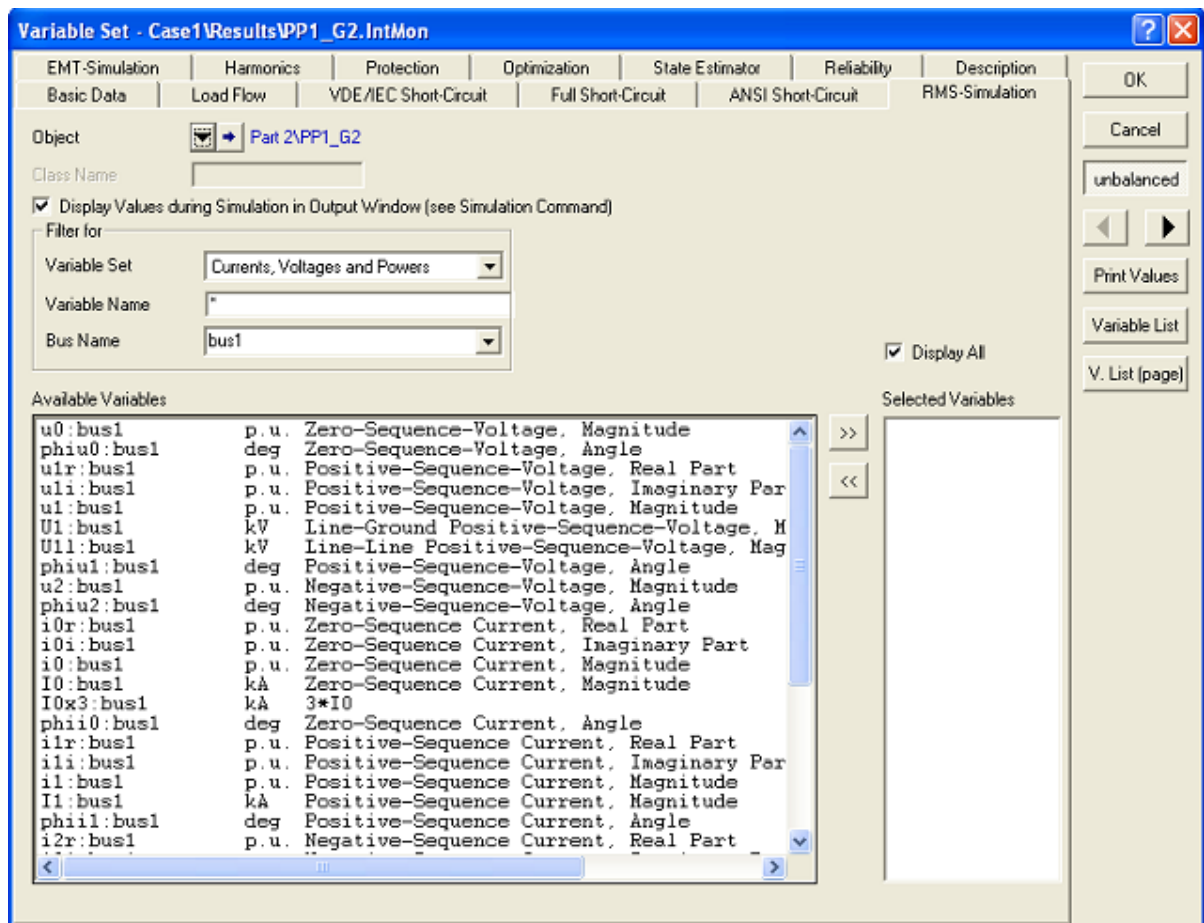

Fig. I.2: Defining a variable set
- ▶ Double click the icon of the "PP1_G2" variable set in the "Results" folder to edit it. A "Variable Set" object dialog, as the one depicted in figure I.2, will pop up.